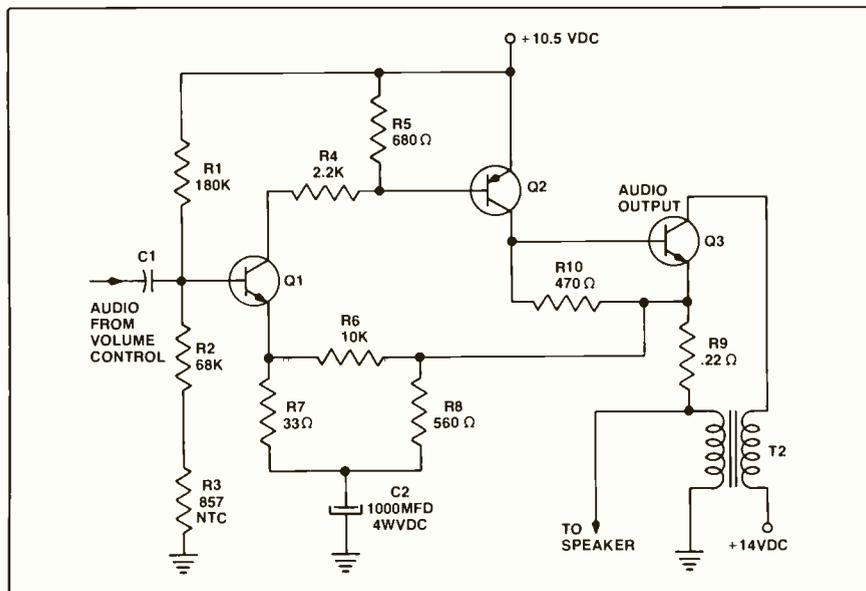

Fig. 1—Audio power amplifier circuit used in some Bendix-produced AM/FM stereo car radios of 1969-70 vintage.
The unit only requires two connections to the oscilloscope, Fig. 1. The output cable from the back of the Dual-Tracer is terminated with a BNC connector and is connected to the *vertical input* of the oscilloscope. Its *sync output* jack on the front panel is connected to the *external sync* connector of the oscilloscope.
The circuit in Fig. 1 is an audio power amplifier used in Bendix-designed Ford AM/FM Stereo receivers of the 1969-70 era. Similar circuitry is also used in Bendix radios of other years and in radios produced by other manufacturers. Actually, this circuit design can be traced back to the 1967 Volkswagen AM receivers, which were the first 12-VDC VW radios. The "common feature" in this series of
Transistor Q3 in Fig. 1 can be replaced with an OEM P-66 type from Bendix or, if necessary, you can replace it with a substitute plastic-case type from Motorola (HEP), General Electric (GE), Sylvania (EGG), RCA (SK), International Rectifier (IR) or any of the semiconductor replacement lines. When selecting a substitute, pay particular attention to the physical design; because some plastic-case substitute types have different mounting dimensions than the OEM version, they might not fit as conveniently as you desire.
Another recurrent (although rarer) defect related to Q3 in Fig. 1 is a fault in the insulator which is supposed to prevent the collector tab from coming in contact with ground. The fault in the insulator grounds the +14-VDC source, thereby destroying the audio output transformer.
current drain and less distortion than is usually produced by a defective audio output transistor, check for an open audio bypass capacitor in the output stage (C2 in Fig. 1).